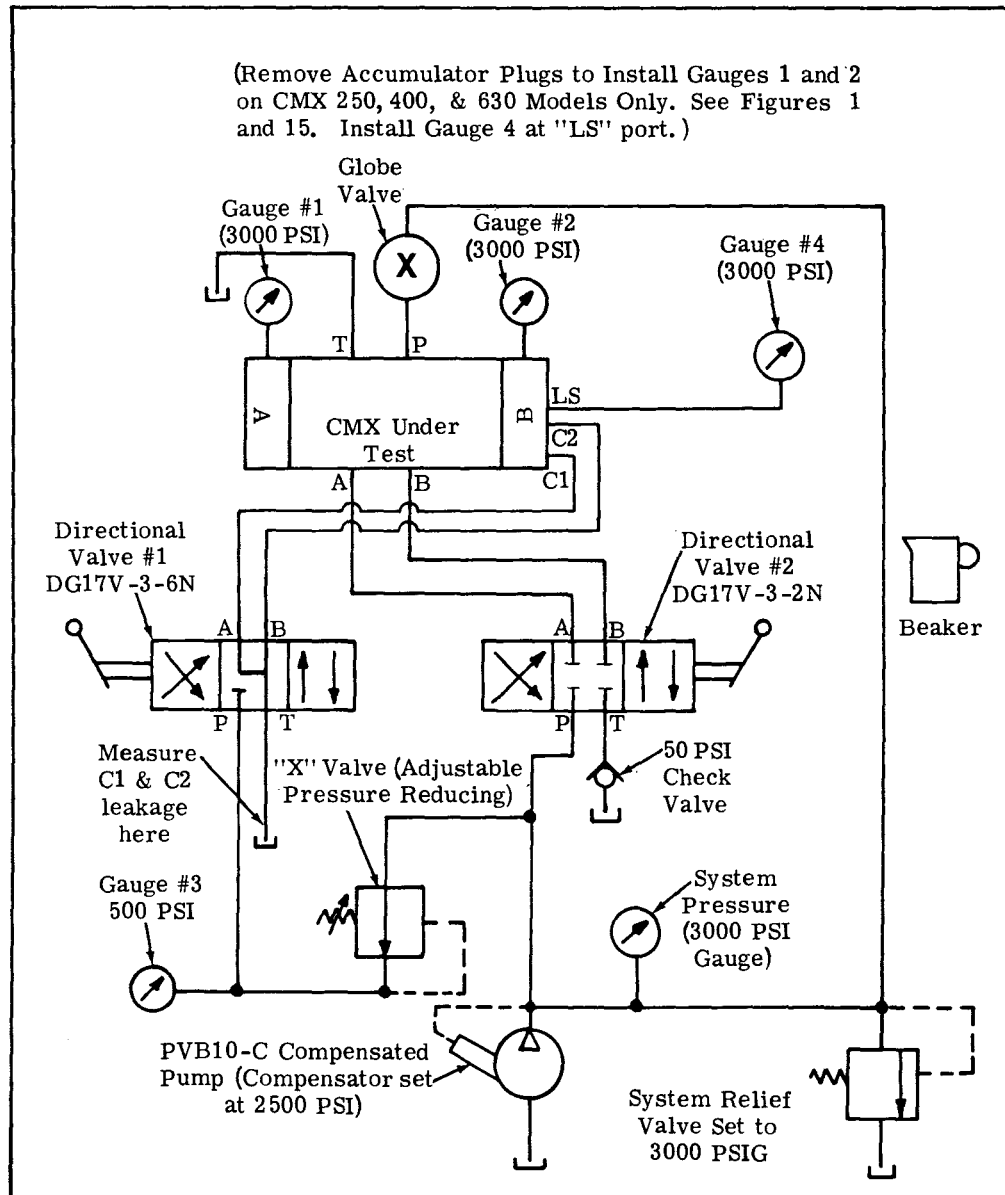

Figure 14. Low Pressure Operational Test Circuit (CMX Valve).
A test of the CMX valve will be performed utilizing the test circuit shown in Figure 14. Meter-in and meter-out elements of the CMX valve will be checked and the cylinder port relief valves adjusted. This test circuit DOES NOT check the CMX valves maximum flow or maximum pressure capabilities.
1. If facilities are available, build the test circuit shown in Figure 14. Use the parts shown on the test circuit for assembly.
3. Connect the CMX pressure and tank ports, the C1 and C2 control ports, and the load sensing port (LS) to the test stand.
9. Check decompression at load sensing port (LS) at lowered pilot pressure. Perform steps (i through l) as shown in Table 8.
11. Set compensator pressure and system relief valve test pressure (TP) to 3000 PSIG. See Figure 14.